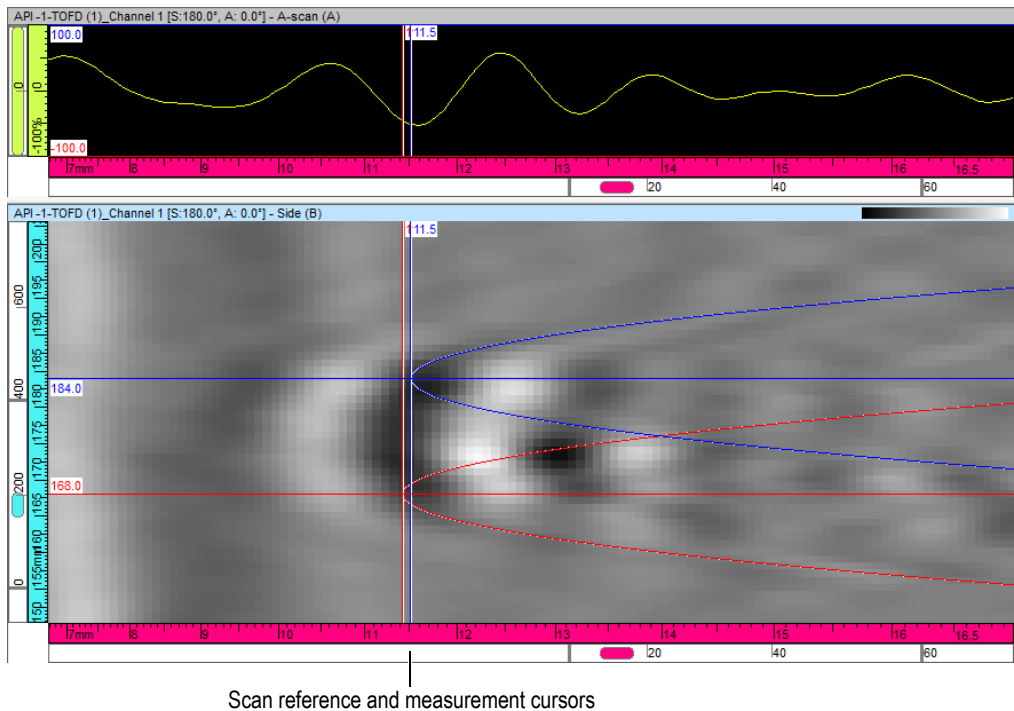

Figure 7-22 Definition of the aperture
1. Select the **Side (B)** view on which you want to apply the SAFT algorithm.
2. In this **Side (B)** view, perform the following procedure in order to select the adequate aperture to be used for the SAFT algorithm:
- a) Zoom in on a zone of interest containing a punctual TOFD indication (see Figure 7-22 on page 362), showing the typical parabolic shape.